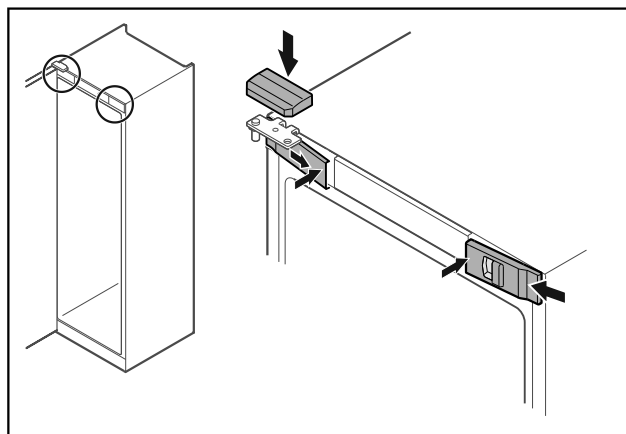

Fig. 46 *
- ▶ Hook in the front covers Fig. 46 (1) on the side and snap them into place on the inside.*
- ▶ Snap on the top cover Fig. 46 (2) from above.*